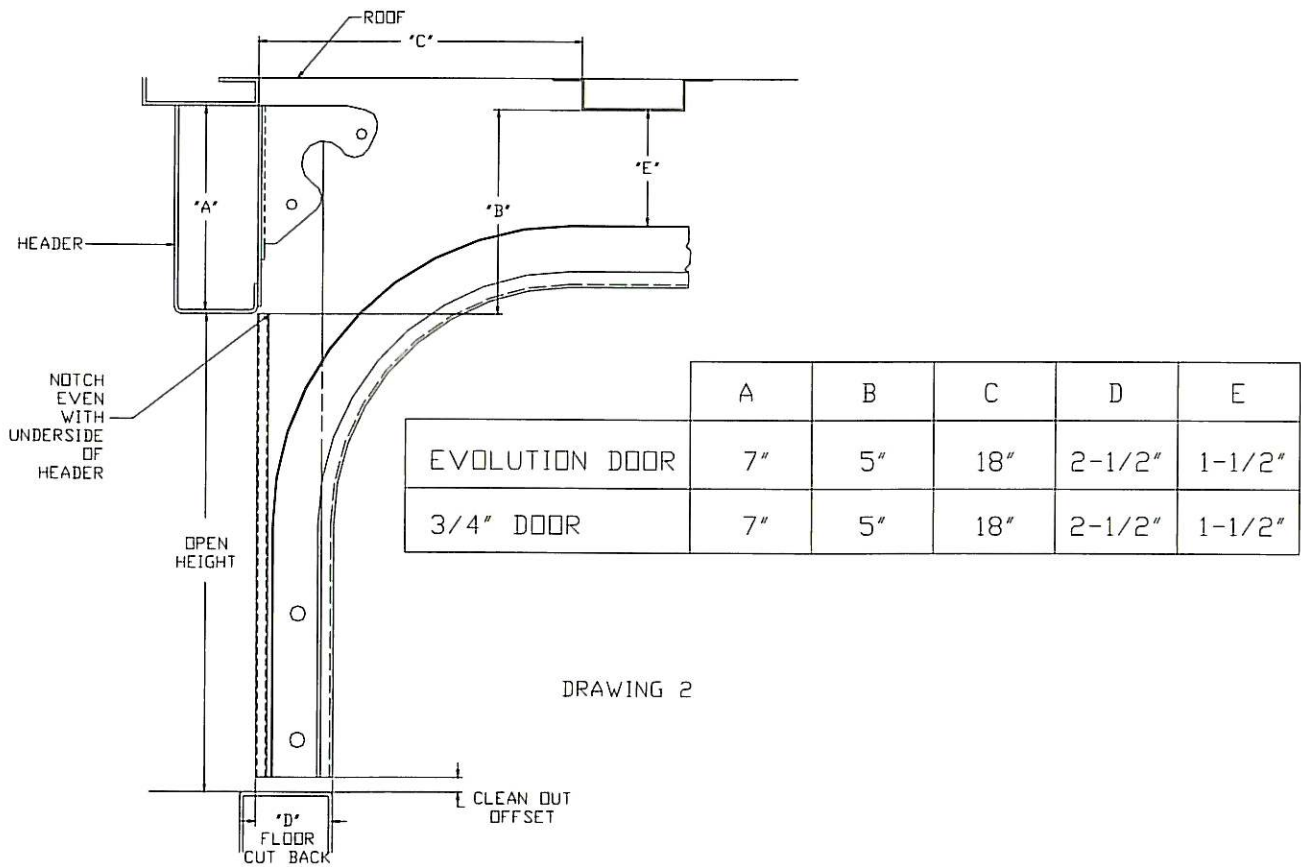

Figure 2
***See Figure 2 for clearance dimensions.**
Clamp vertical track/mounting angle to the corner post, the mounting angle needs to be even with the inner edge of the corner post from header to sill. The notch in the mounting angle needs to line up with the bottom of the header. *See Figure 2. Starting at sill weld the vertical track/mounting angle to the post on 12" to 15" centers.